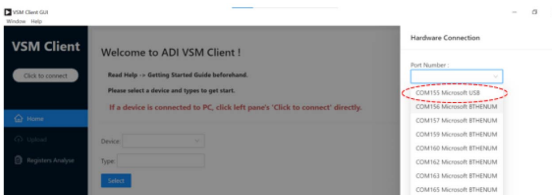

Figure 19. Cable Connection COM Port
- b. If using a cable connection, only one port is available (see Figure 19). In the example shown in Figure 19, the port is **COM155 Microsoft USB**. The COM serial port numbers shown are examples only. Refer to the **Device Manager** for the COM serial port numbers.